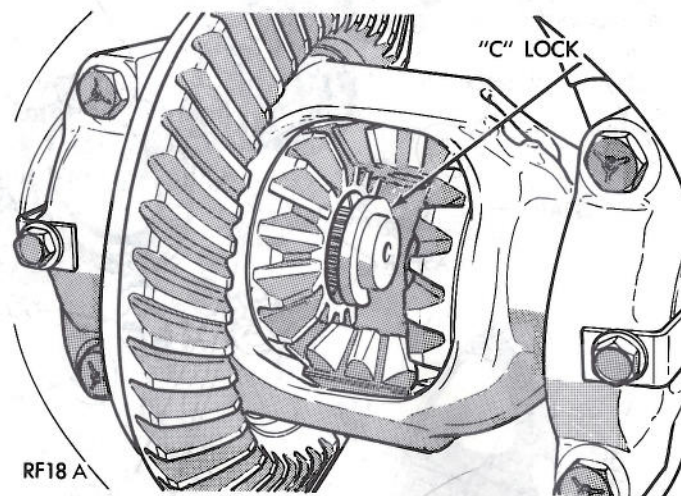

Fig. 4—Removal or Installation of Axle Shaft "C" Locks
(5) Push axle shaft toward center of vehicle and remove the "C" locks from recessed groove of axle shaft (Fig. 4).
(6) Remove axle shaft from housing being careful not to damage the straight roller type axle shaft bearing which will remain in the rear axle housing.
(7) Inspect the axle shaft bearing surfaces for signs of brinnelling, spalling or pitting. If any of these conditions are present both the shaft and the bearing should be replaced. The normal bearing contact on the shaft will be a dull gray and may appear lightly dented.
(8) Remove axle shaft seal from housing bore.